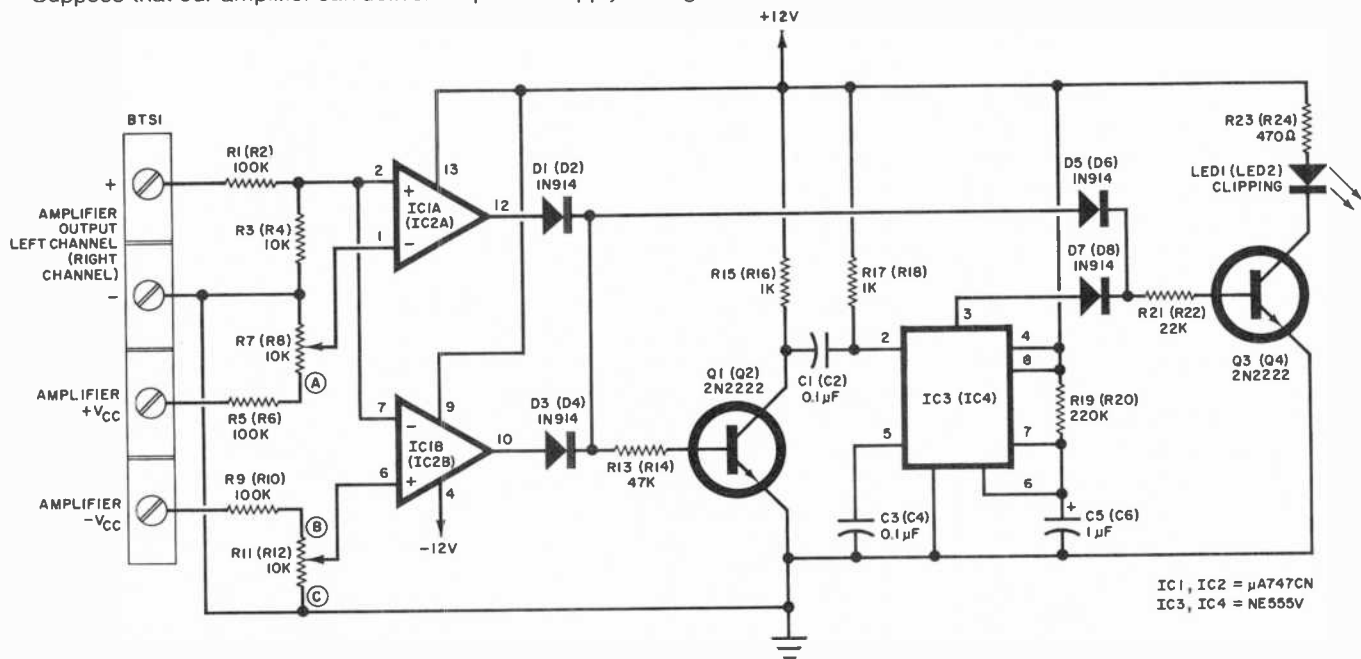

Fig. 2. Schematic of the clipping indicator circuit for one channel.
**About the Circuit.** The Amplifier Clipping Indicator is shown schematically in Fig. 2. Each channel of amplification in a sound system will require a separate indicator circuit. The most common application for the project is in a stereo system, so component numbers for two channels are shown. Those for the right channel are given in parentheses. The discussion that follows pertains to only one channel, designated the left channel of a stereo pair. Everything that will be said, however, applies equally to as many channels as are needed because the indicator circuit is identical for each.
**Interconnection and Adjustment.** If your audio amplifier employs a bipolar dc power supply (most do), connect the +VCC and -VCC terminals of *BTS1* to the power supply outputs inside the amplifier. (Note that making these connections will, in most cases void the warranty on your amplifier.) Also, connect the AMPLIFIER OUTPUT terminals of *BTS1* to the amplifier's speaker output terminals in agreement with the polarities indicated in Fig. 2. These connections can be made with standard "zip-cord" or speaker wire. Refer to Fig. 3A for details.
The circuit's trimmer potentiometers can now be adjusted. Referring to Fig. 2, note the points near *R7* and *R11* designated A, B, and C. If your audio amplifier has a bipolar power supply, adjust the wiper of *R7* so that it is at position A and the wiper of *R11* so that it is at position B. If your amplifier's power supply is single-ended, adjust the wiper of *R7* so that it is at position A and the wiper of *R11* so that it is at position C.